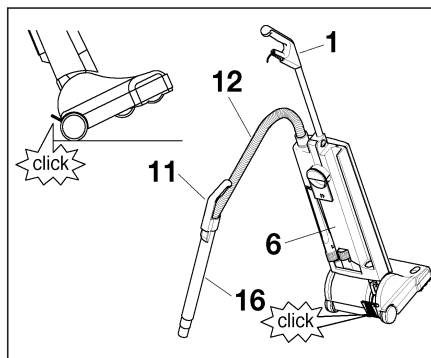

Figure 1
## Using the Attachments Tube, Hose & Attachments - Figures 1 & 2
The attachment tube (16) is useful for vacuuming corners and hard-to-reach areas. The handle grip (1) should be in the upright, locked position (**as shown in figure 1**). Grip the attachment tube handle (11), pull it up and away from the machine and stretch out the hose (12) until it locks (this locking action will prevent the hose from retracting back into the attachment tube while it is in use). Various attachments may be inserted onto the end of the tube.